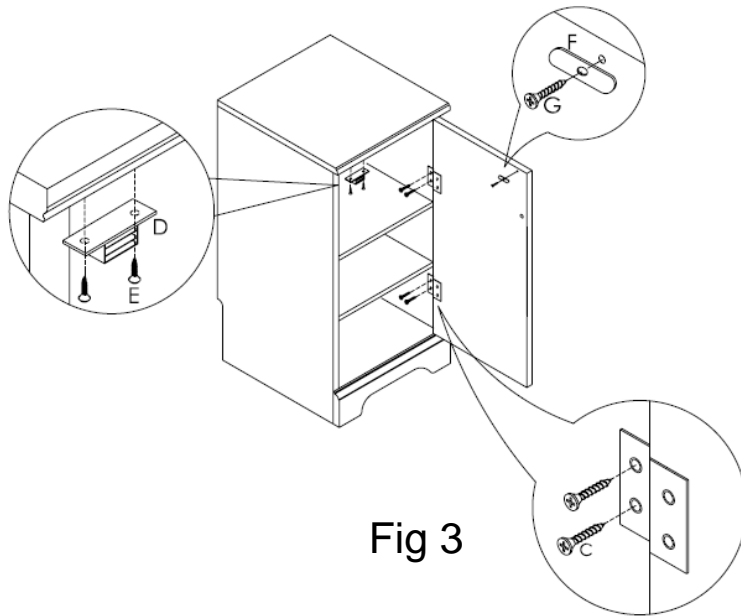

Fig 3
3. Reattach the hutch's door to the right side of the cabinet. NOTE: When positioned correctly, the door's Knob (A) will be in the upper left corner of the door. Align the door's hinge with the pre-drilled holes on the interior right side of the cabinet and attach using the Hinge Screw (C). Reattach the Metal piece (F) to the door corner by aligning the Metal Piece (F) with the pre-drilled holes on the door's interior and attaching with Screw (G). Reattach the Magnet (D) to the left side of the cabinet top's underside, as shown below. Align the Magnet (D) to the pre-drilled holes on the cabinet top's underside and attach with the Screws (E). (Fig. 3)